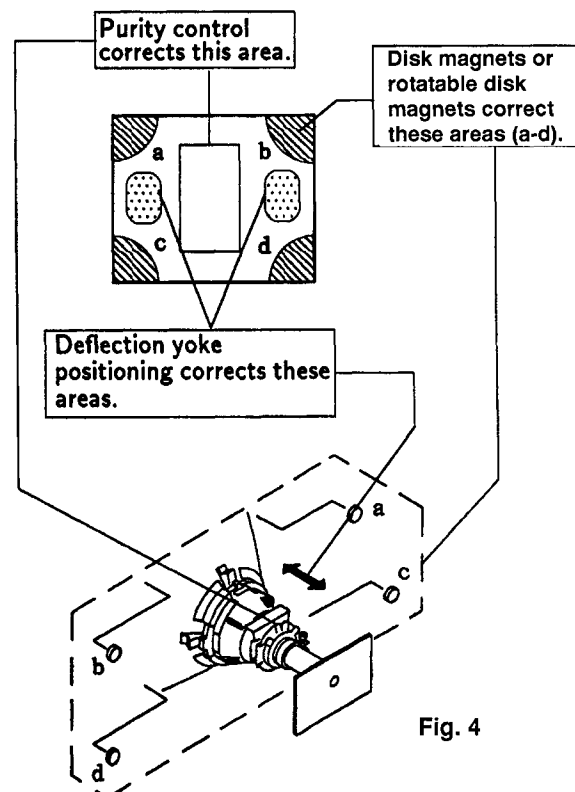

Fig. 4
8. When landing at the corner is not right, adjust by using the disk magnets. (Fig.4)